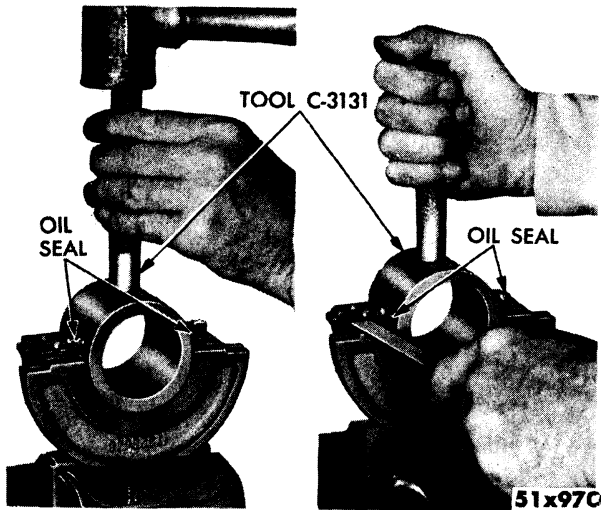

Fig. 100—Installing Rear Main Bearing Oil Seal
- (1) Install a new rear main bearing oil seal in the block so that both ends protrude. Tap the seal down into position, with Tool C-3131, until tool is seated in the bearing bore. Hold the tool in this position, then cut off the portion of the seal that extends above the block on both sides.
- (2) Install a new seal in bearing cap (bearing shell removed) so that the ends protrude. Tap seal down into position with Tool C-3131, as shown in Figure 100, until tool is seated. Trim off the portion of the seal that protrudes above cap. Install the two cap side seals in the grooves in the cap. Care should be used when installing these seals, as they are NOT interchangeable. The seal with the longer body should be installed on the oil filter side of the block. Seals incorrectly installed will cause an oil leak.